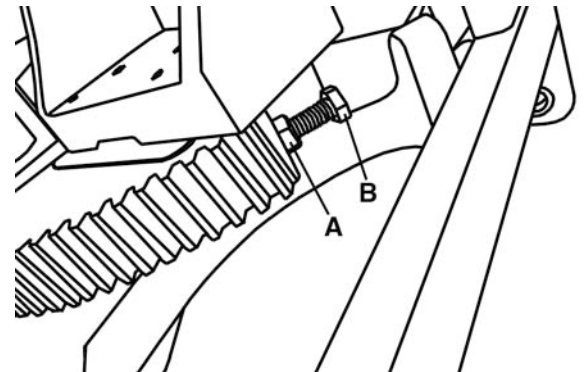

FIGURE 24
4. If the blade is not at 90 degrees loosen lock nut (A) Fig. 24 and turn stop bolt (B) in or out. The stop bolt (B) should stop against the front trunnion bracket when the blade is at 90 degrees to the table. Recheck and adjust further if necessary. Retighten lock nut (A).